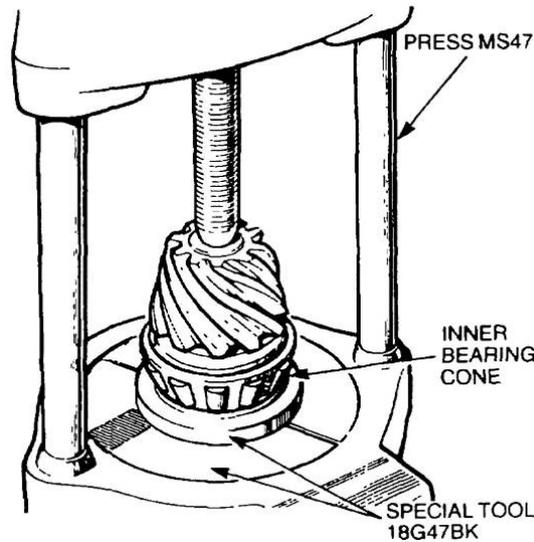

Figure 240 Installation of the Pinion Inner Bearing Cone
- d. Using special tools 18G47BK and MS47, press the inner bearing cone on the pinion shaft (Figure 240) and position the shaft assembly in the case. Do not install the collapsible spacer at this stage.